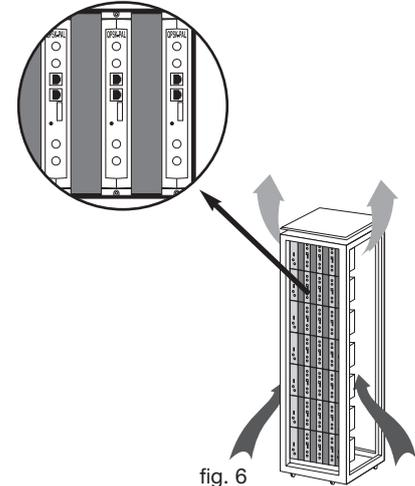

fig. 6
When the rack is located in an area where the temperature is around 40°C, it is advisable to install it in such a way that it is left totally open, in other words, without adding the side doors thus facilitating the ventilation of the units with the option of placing the blank plates ref. 5073, fig. 6.